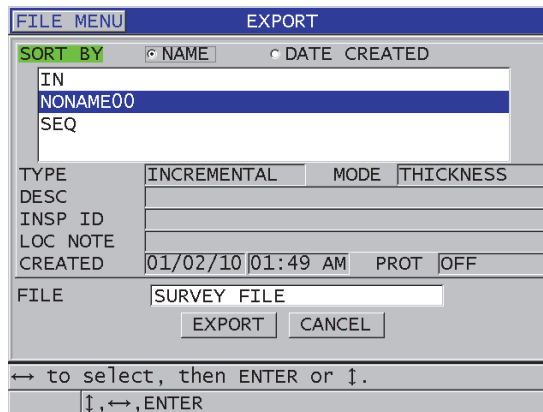

Figure 14-8 The EXPORT screen
5. In the **EXPORT** screen (see Figure 14-8 on page 275):